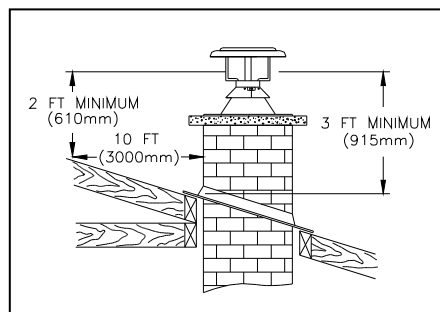

Figure 1
4. The chimney shall extend at least 3 ft (915 mm) above its point of contact with the roof and at least 2 ft (610 mm) higher than any wall, roof or adjacent building within 10 ft (3 m) of it (fig. 1).